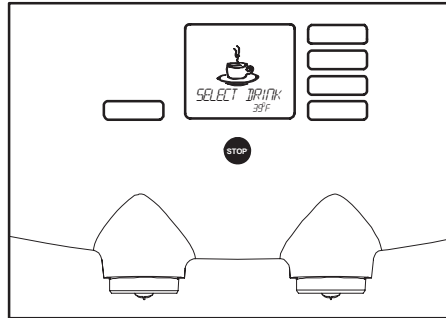

Fig. 5 Dispenser ready for use
- When the water has reached the set temperature, a coffee cup shows in the display with the message "SELECT DRINK" (fig. 5).